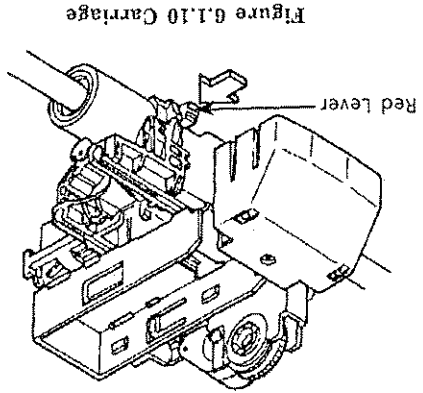

Figure 6.1.10 Carriage
- 2) Pressing the red lever on the carriage (Figure 6.1.10) will move the ribbon cassette holder to the right (See Figure 6.1.11).